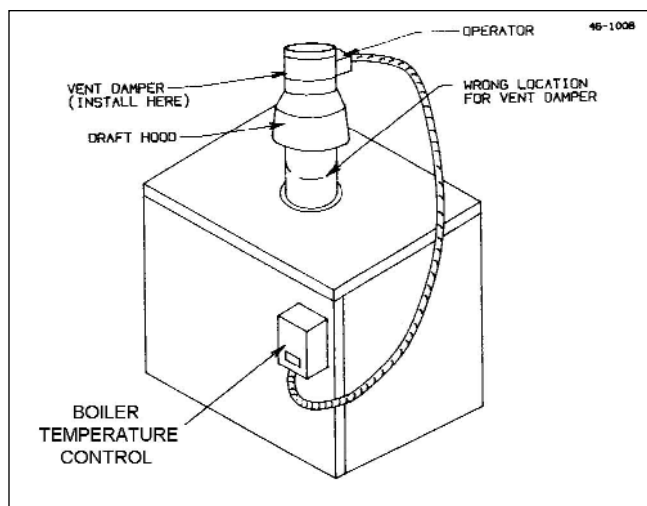

Figure 1.
5. This device must be installed after the appliance draft hood (between the draft hood outlet and the connector to the outdoor chimney or vent) as close to the draft hood as practicable, and without modification of the draft hood or the damper. (See figures 1 and 2.)